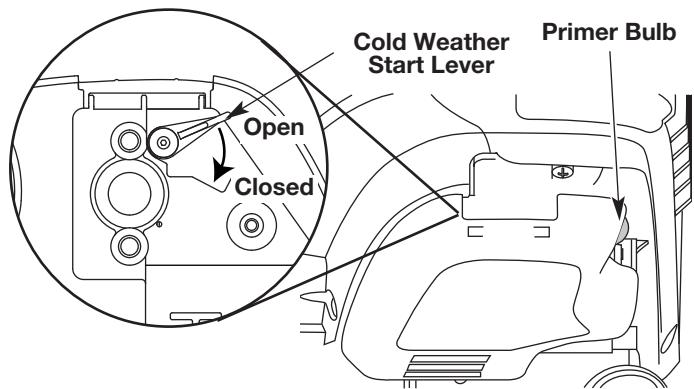

Fig. 7
**NOTE:** There is no need to turn the unit on. The On/Off Stop Control is in the ON (I) position at all times.
- 3. Fully press and release the primer bulb 10 times, slowly. Some amount of **fuel should be visible in the primer bulb** and fuel lines (Fig. 7). If you can't see fuel in the bulb, press and release the bulb as many times as it takes before you can see fuel in it.
**IF UNIT IS BELOW 40°F...** Push the Cold Weather Start Lever (Fig. 7) down to the start/closed position and continue to step 4. DO NOT push this lever down if the unit temperature is above 40°F.